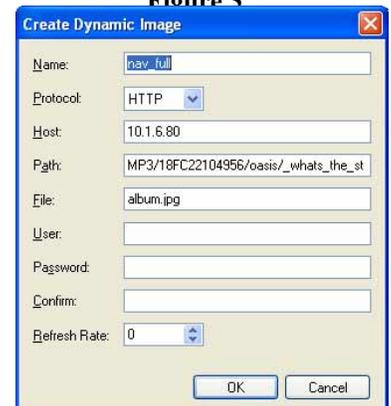

Figure 4
- b. In the "Resource Manager" dialog box, click the "New" button in the upper right. This will open the "Create Dynamic Image" dialog box (Figure 4).